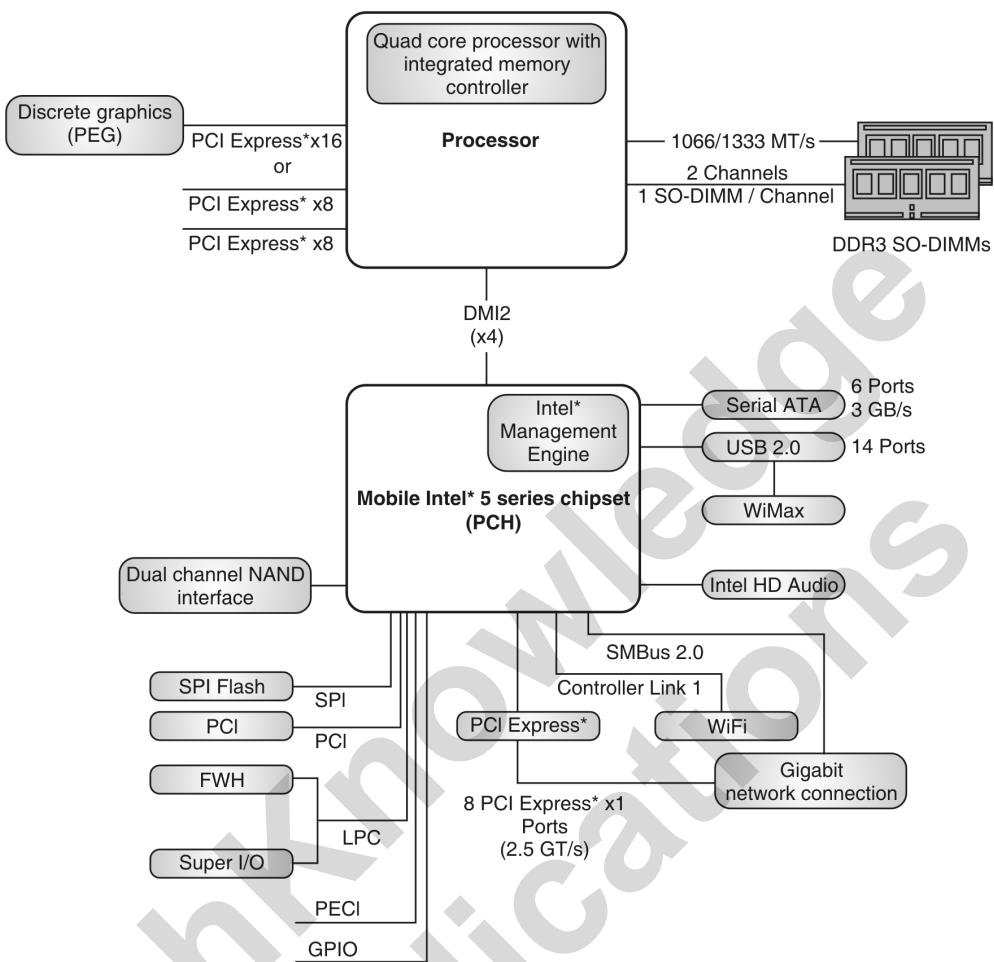

Fig. 10.11.9 : Mobile processor
- The basic block diagram of i5/i7 processor is given in the Fig. 10.11.9.